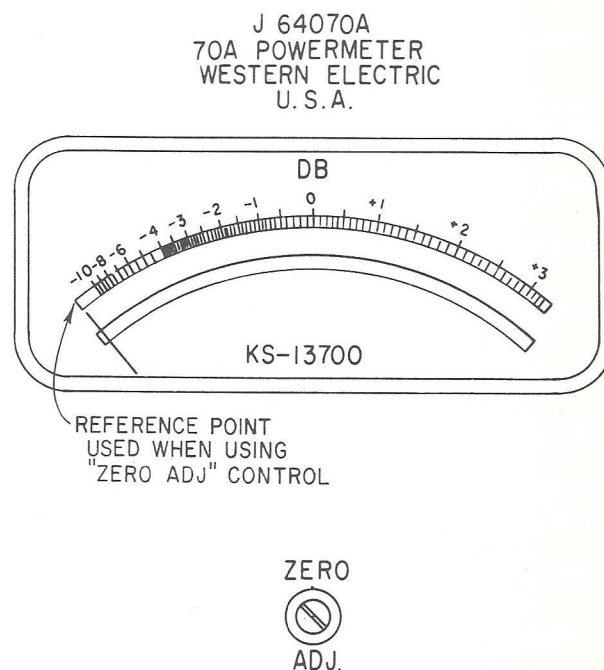

Fig. 5 - Zero Adjust Point on 70A Power Meter
**4.03 IN ALL CASES, THE FOLLOWING PARAGRAPH IS MOST IMPORTANT FOR MAXIMUM ACCURACY:** With no input to the meter, check that the meter pointer lines up with the line at the left of the -10 DB scale marking. See Fig. 5. If it does not, adjust the meter ZERO ADJUST screw for correct alignment.